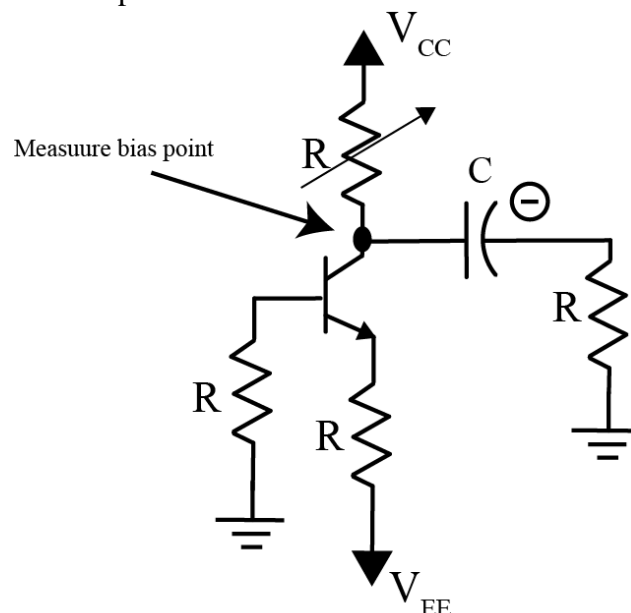

Figure 5: Biasing the transistor circuit.
2) Now we will build the circuit subsystem shown in Figure 5. Turn off the power while wiring, and then turn the power back on when you want to make measurements. Note that the collector is connected to the  $+9$  volt source  $V_{CC}$ , the emitter is connected to the  $-9$  volt source  $V_{EE}$ , the base is connected through a resistor to ground, and the collector is also connected through an electrolytic capacitor (note the negative sign!) in series with a resistor to ground. It is probably easiest to have the transistor straddle the middle of the breadboard. Note that the resistor connected to  $V_{CC}$  is a variable resistor (a potentiometer). Be sure to only connect one of the outer legs and the middle leg to use this as a potentiometer.
3) Connect a probe from scope channel DC2 to the measurement point as shown in Figure 5. Turn the power on, and measure the signal at the bias point. Be sure you are triggering off of channel DC1. Adjust the potentiometer so the bias point is approximately 4 volts. Do not go on until you get this correct!